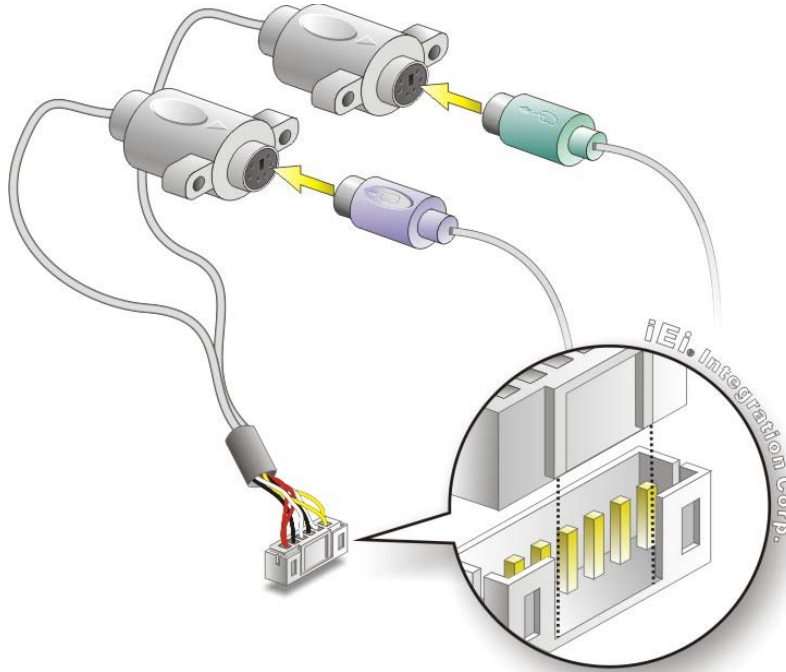

Figure 4-13: Keyboard/mouse Y-cable Connection
Step 2: **Align the connectors.** Correctly align pin 1 on the cable connector with pin 1 on the NOVA-PV-D5251/D4251 keyboard/mouse connector. See Figure 4-13.
Step 3: **Insert the cable connectors** Once the cable connector is properly aligned with the keyboard/mouse connector on the NOVA-PV-D5251/D4251, connect the cable connector to the on-board connectors. See Figure 4-13.